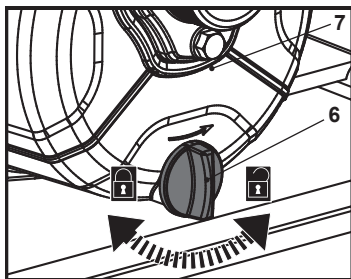

Fig. 17
- Loosen and remove the water drain plug (6) to empty the remaining water in the pump head (7) into a suitable container (Fig. 17).